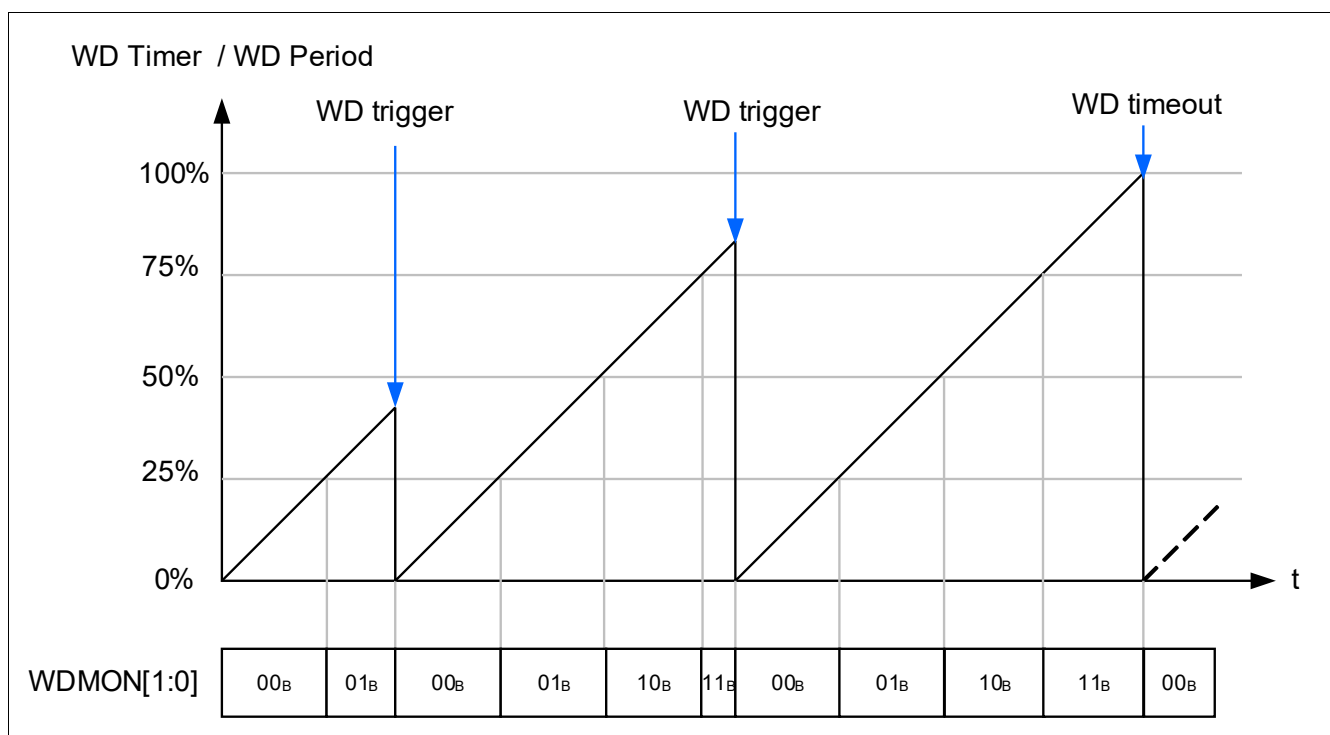

Figure 38 Example of watchdog monitoring and watchdog timeout
- The watchdog trigger bit is not served within the watchdog period (watchdog timeout event). See **Figure 38**²⁾.
The status bits **WDMON**[1:0] report the relative position of the watchdog timer to the watchdog period. Refer to **Table 21** and **Figure 38**. This allows the detection of a potential latent failure associated to the watchdog timer: the microcontroller can indeed verify that the watchdog timer is running.